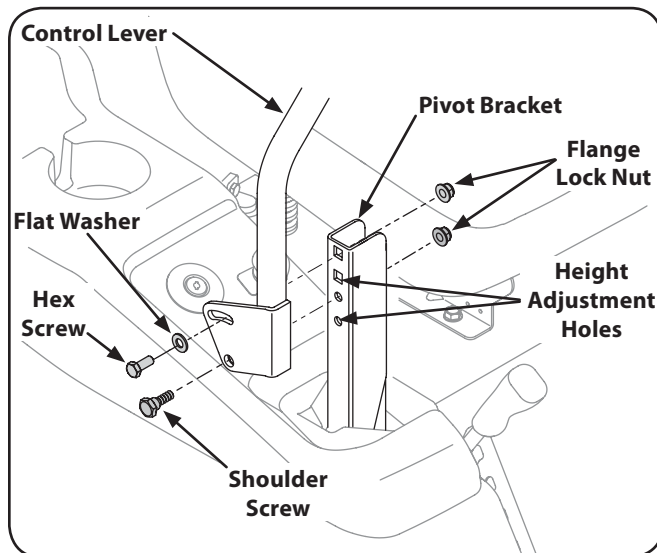

Figure 6-4
2. While supporting the control lever to keep it from falling, remove the hex insert flange lock nut and shoulder screw from the bottom of the control lever and pivot bracket. Refer to Fig. 6-4.
1. If not already loose, loosen the flange lock nut and rotate the control lever either forward or rearward to the desired position. See Fig. 6-4.